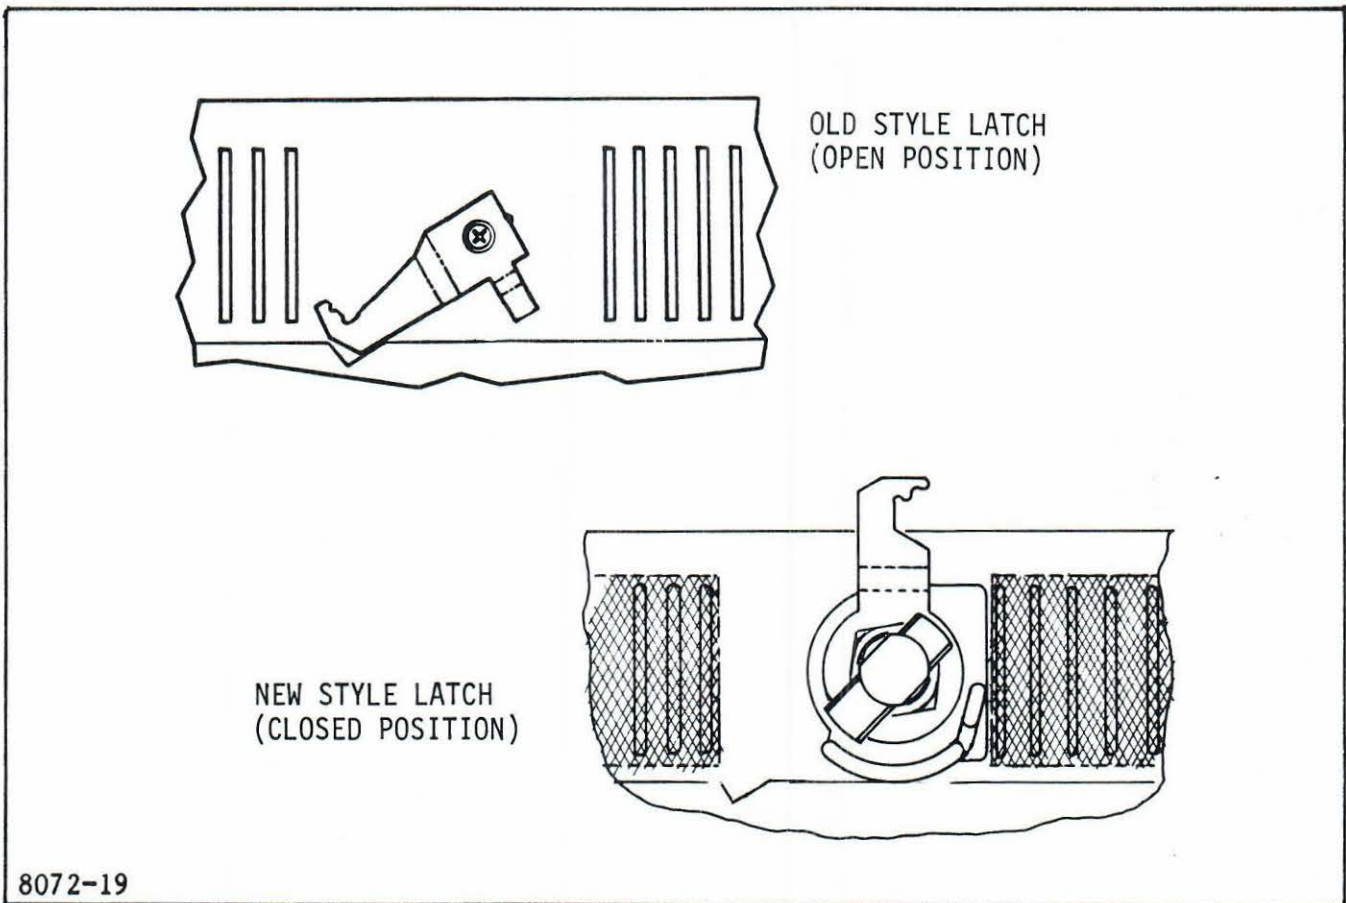

Figure 4-2. Cabinet Cover Latch (inside view, cover opened)
7. Open the cabinet cover and inspect the latch for bent or broken hardware (see figure 4-2). Straighten or replace the latch if necessary.